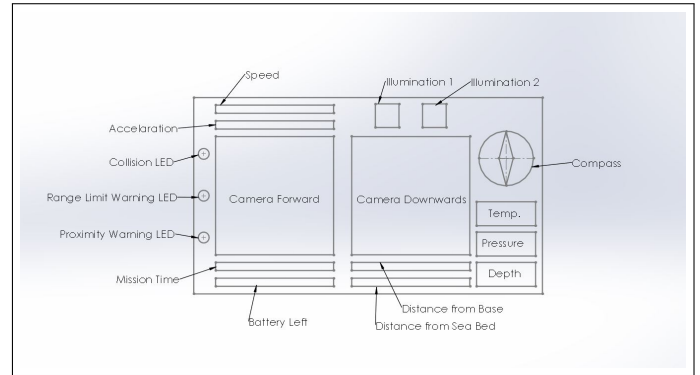

Fig. 1. User Interface for NUSim outlining the elements of the interface.
The User Interface (UI) allows the operator to monitor the state of the vehicle and help them to control the UUV. A basic layout of the UI was prepared as shown in *Figure 1*.